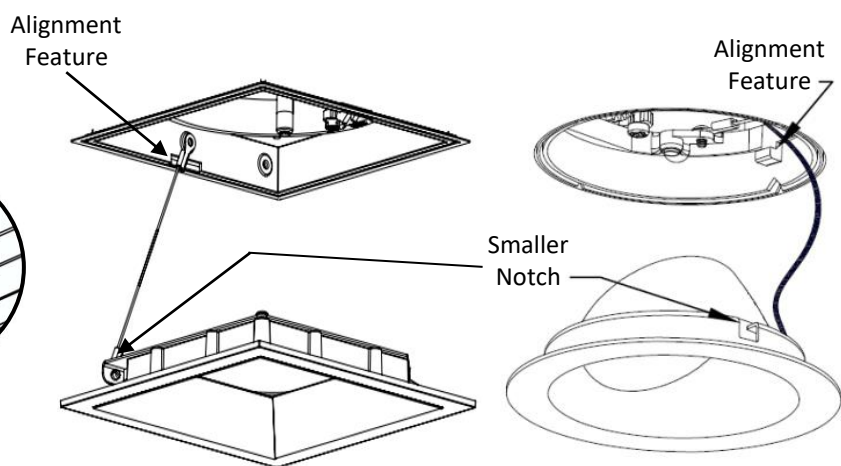

Fig.6
3. For (C4_A) Ensure Trim Section is fully engaged with Light Engine, sits level against ceiling, and does not interfere with tether assembly or inner edge or reflector.(Fig.6)